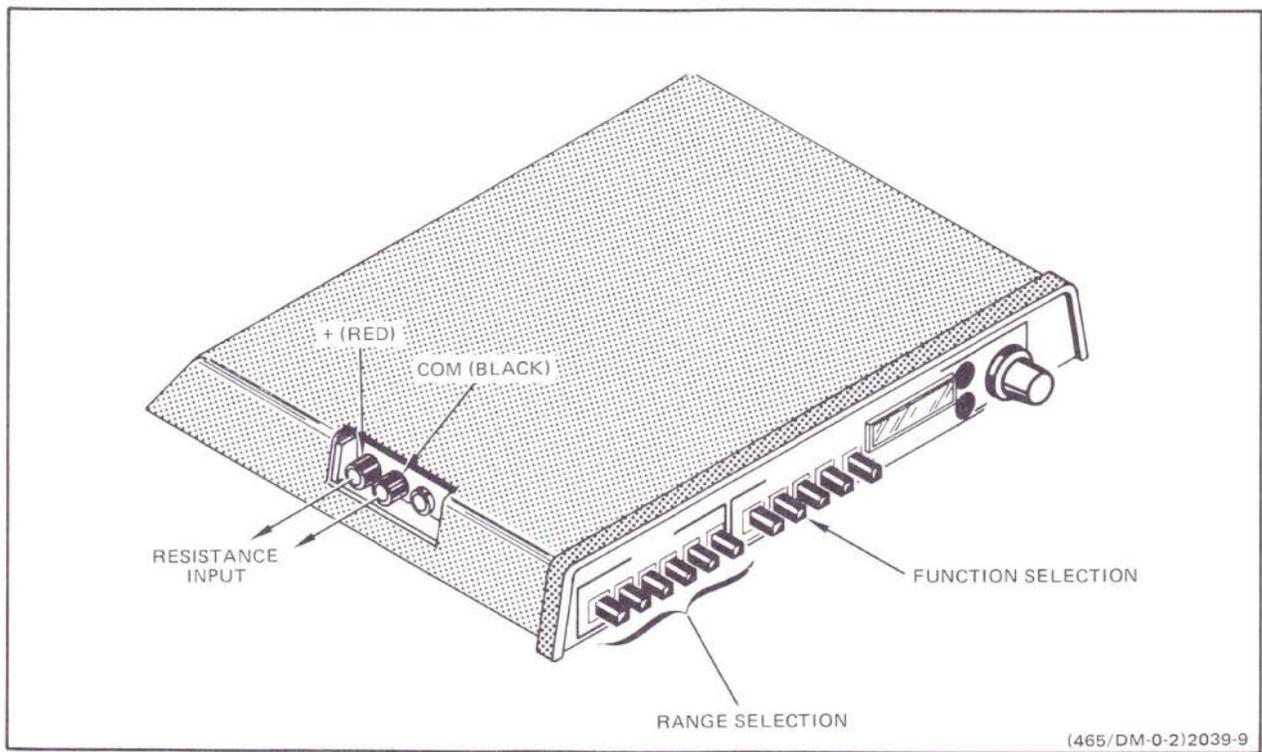

Fig. 8. Resistance.
1. Push in the OHMS FUNCTION button and the 20 MΩ RANGE button. See Fig. 8.